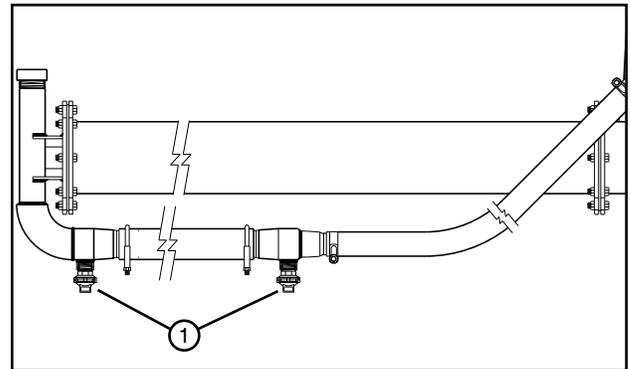

Figure 105-1 1. Booster Pump Hose Drain
- Make sure the booster pump hose drain is not plugged with sand or debris and the hose is completely drained. See Figure 105-1.